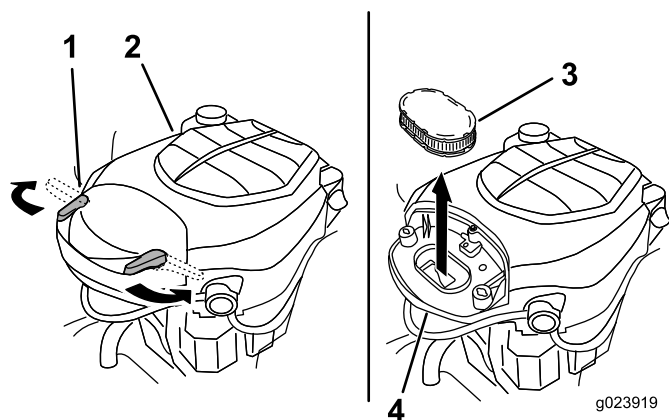

Figure 27
2. Remove the cover to access the air-cleaner element (Figure 27).
6. Install the cover and secure it with the latches (Figure 27).